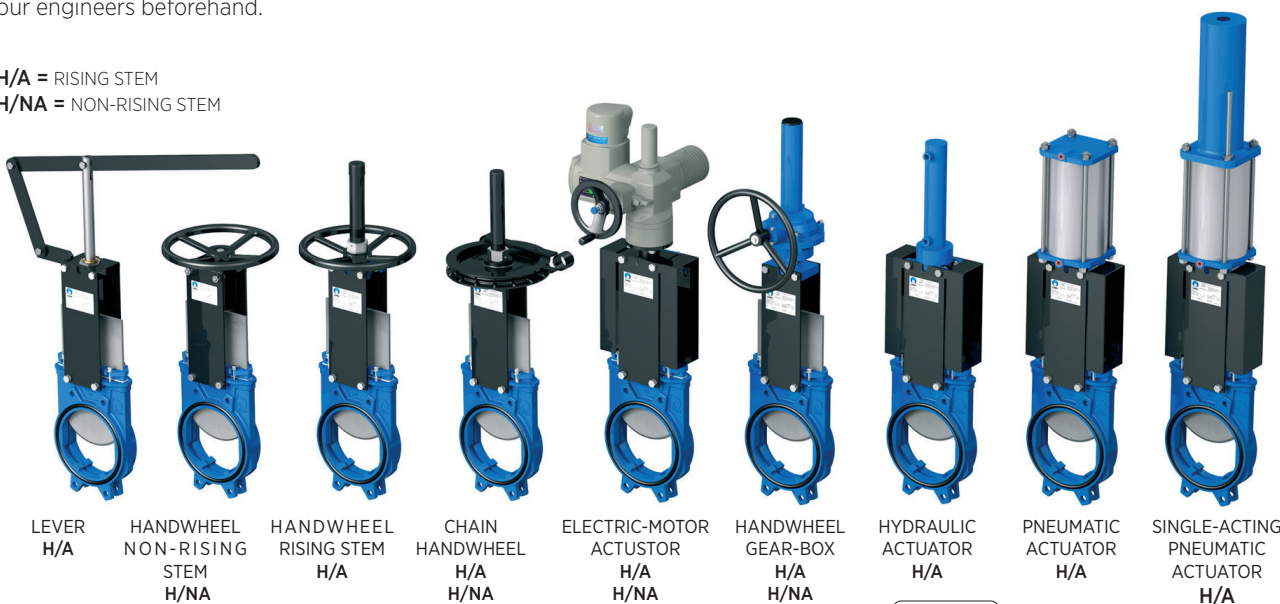

Fig. 6
- Leaning floor stand (Fig. 6)